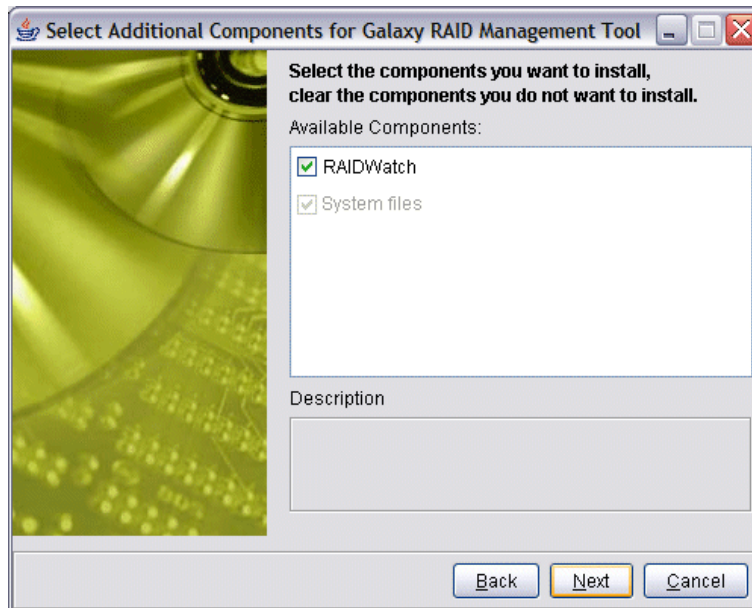

Figure 3-10: Optional Components
Step 1. If the *Next* button from *Figure 3-10* was selected, the Install Active window shown in *Figure 3-11* will appear. If you wish to stop the installation procedure, then click the *Cancel* button.